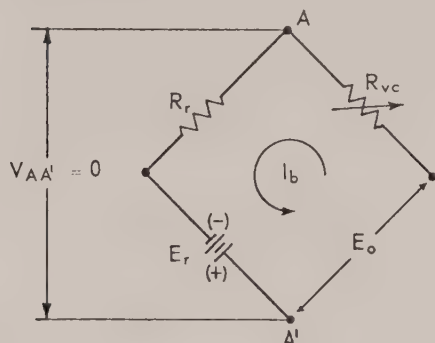

FIG. 3-1: KEPSCO COMPARISON BRIDGE, SIMPLIFIED.
3.3 EQUATIONS SHOWING THE OPERATION OF THE KEPSCO BRIDGE (Refer to Fig. 3-1)